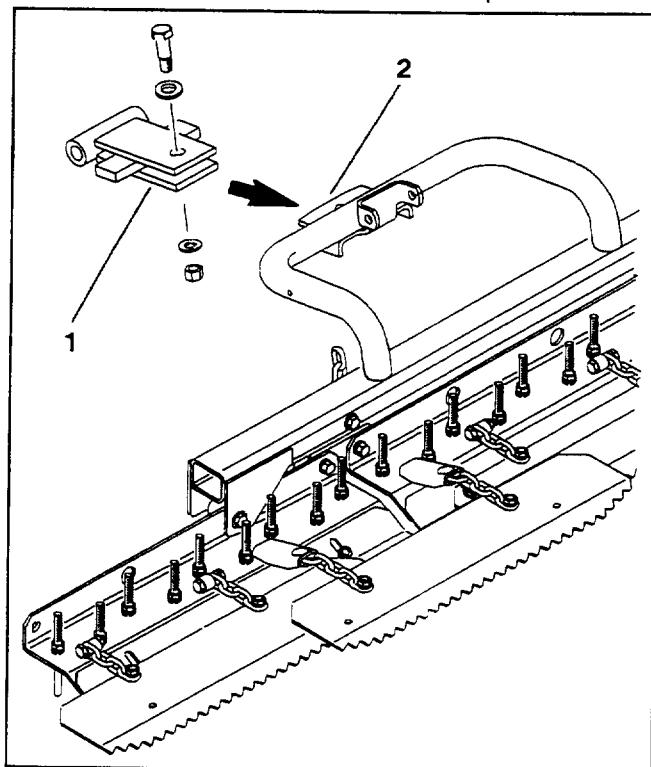

**Figure 3**
**NOTE:** On the Sand Pro 5000 (Model No. 08881), the hydraulic cylinder is mounted to left side of cylinder bracket on the hitch and lift arm assembly with above fasteners plus a spacer, capscrew and locknut, as shown in figure 3.